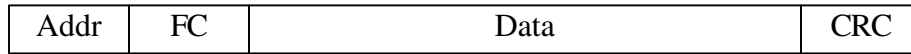

Figure 2 Modbus Serial Line Protocol Data Unit (PDU)
Modbus is an application layer (OSI 7) messaging protocol.¹ Our implementation of Modbus can be defined simply by stating that a Modbus communication from the OIT can either read a register or write a register. To do this, Modbus has defined a protocol data unit (PDU) as shown in Figure 2. The PDU is made up of an address field (Addr), a function code (FC), the data (Data), and a checksum (CRC). The address refers to the identity of the device (the Modbus address of the S200) that you wish to communicate with and is set on the S200 drive through switches S11 and S12. The function codes will be discussed in the “Function Codes” section. The data is the information sent/received from the drive and the CRC is the calculated checksum. The checksum will be calculated